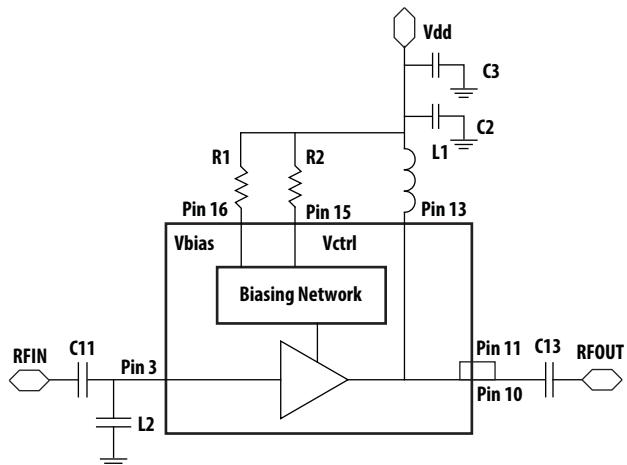

Figure 46. Application Circuit Diagram
1.  $V_{bias}$  and  $V_{ctrl}$  can be externally controlled by change external biasing resistors  $R1 = R_{bias}$  and  $R2 = R_{ctrl}$  (as shown in Fig. 46).
1. Vbias and Vctrl can be externally controlled by change external biasing resistors  $R_1 = R_{bias}$  and  $R_2 = R_{ctrl}$  (as shown in Fig. 46).
1.  $V_{bias}$  and  $V_{ctrl}$  can be externally controlled by change external biasing resistors  $R_1 = R_{bias}$  and  $R_2 = R_{ctrl}$  (as shown in Fig. 46).
1. Vbias and Vctrl can be externally controlled by change external biasing resistors R1 = Rbias and R2 = Rctrl (as shown in Fig. 46).